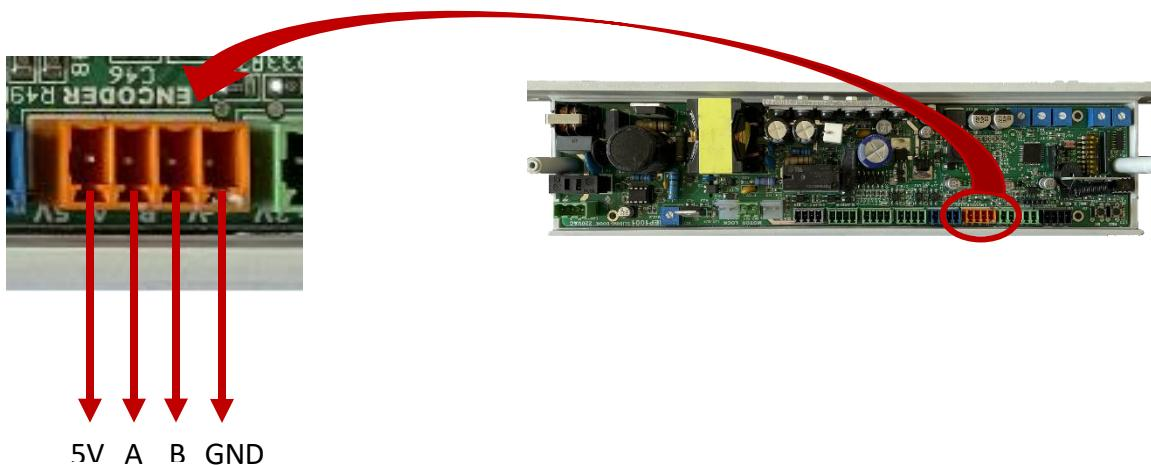

Figure 2: The position of the encoder on the card, input types, and a close-up view.
- 1) Encoder:** The position information of the door is achieved through a 100-pulse phase-shifted input on the card. The overall appearance and input types are shown in Figure 2. **MAKE SURE THAT THE + AND - CABLES ARE PROPERLY CONNECTED. INCORRECT CONNECTION CAN CAUSE DAMAGE TO BOTH THE MOTOR AND THE CARD.**